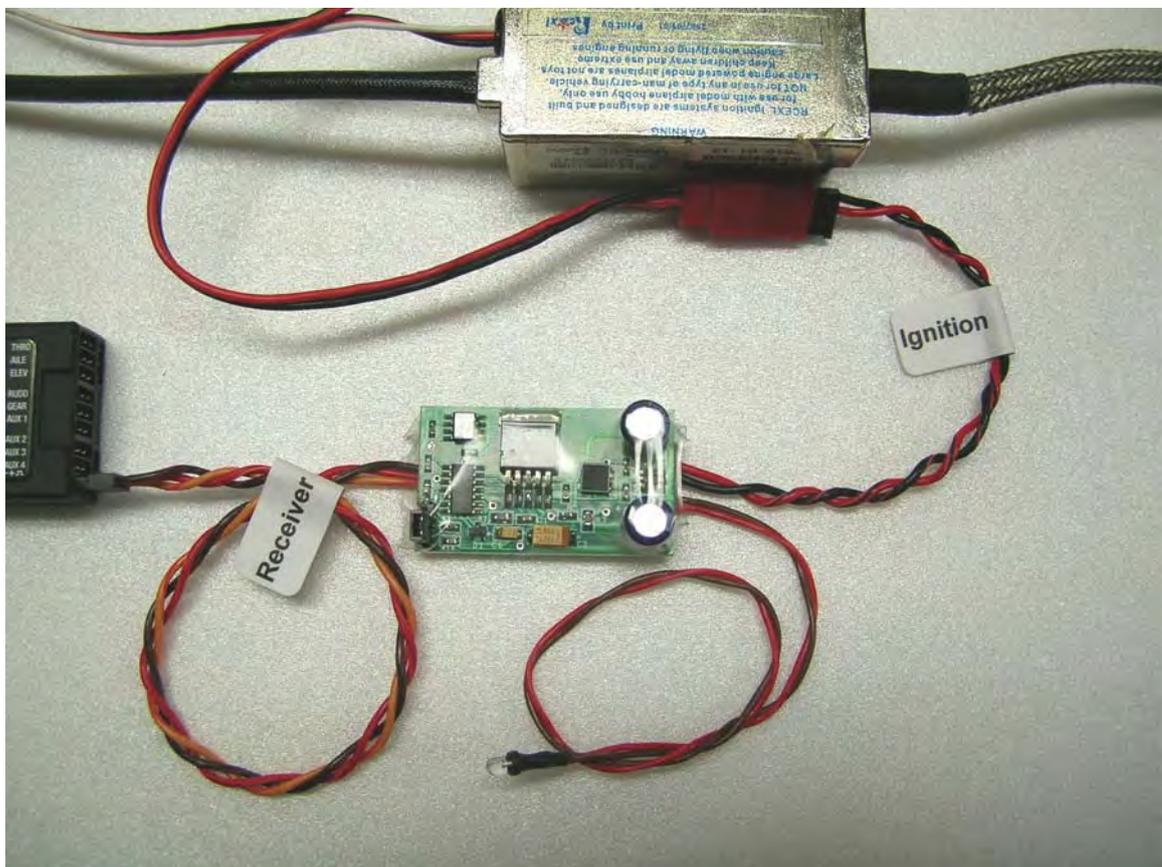

Figure 2 – Ultra IBEC Connection to Receiver and CDI Module
Please refer to Figure 2, which depicts the Ultra IBEC connected to an auxiliary channel of a receiver. The Ultra IBEC provides significant flexibility in your choice of supply voltage and battery configurations. For example, dual redundant regulators and batteries are ideal to provide the assurance that the entire flight pack and ignition module will continue to operate in the event of a single battery, wiring, or even a regulator failure. Alternatively, the Ultra IBEC may be used in configurations where the receiver and servos are powered by one or more unregulated NiCad or NiMh, A123, LiPo or Li-Ion battery packs. NiCad or NiMh packs up to 8 cells may be used if desired, and up to 3 cell A123, LiPo or Li-Ion battery packs may be used for power with the Ultra IBEC, provided that the rest of the flight pack (receivers & servos) can tolerate such high voltages. The Ultra IBEC will take care of providing the correct voltage to the CDI module via its jumper selectable voltage output feature. This is a powerful feature that protects against obsolescence with the advent of high voltage (HV) technology servos that are becoming more popular.